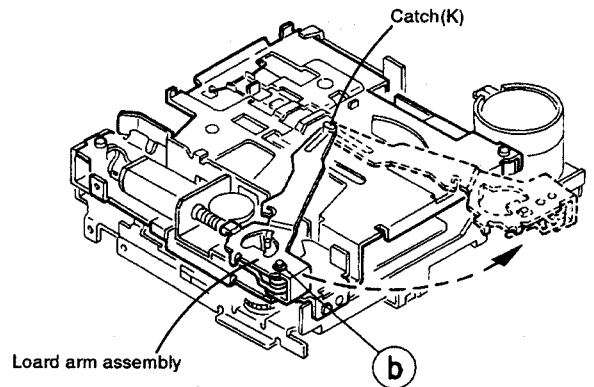

Fig. 2-12
1. Using tweezers, detach the Mylar washer ③ securing the load arm assembly and pull out the load arm assembly. (Fig. 2-12)
2. Shift the load arm assembly counterclockwise. (Fig. 2-12)
3. Remove the load arm assembly from the catch (K). (Fig. 2-12)